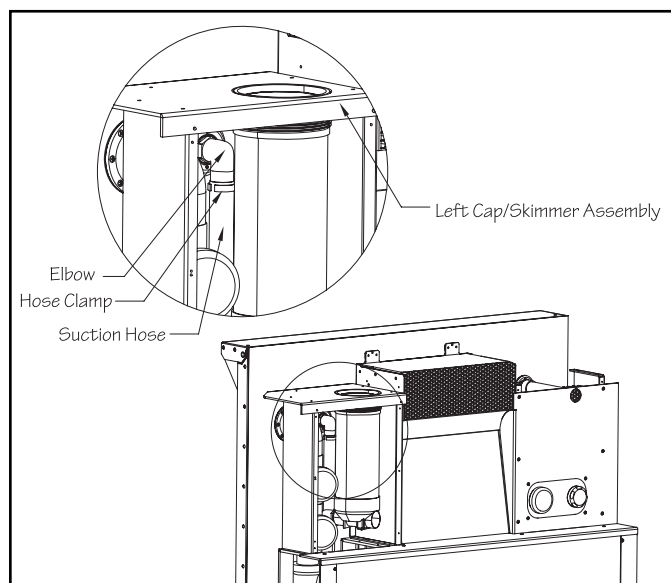

Fig. 58
Attach the opposite end of the suction hose to the elbow that's threaded into the water quality system suction thru-wall fitting. Once the hose is attached, carefully lower and position the left cap and skimmer assembly into place. Note: Although not required, the left face of the housing can be removed by removing the (6) screws if necessary. Fig. 58.